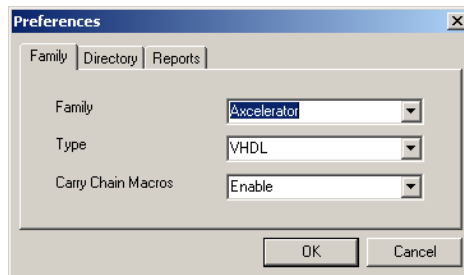

Figure 1-4. Preferences Dialog Box - Family Tab
1. **From the File menu, select Preferences.** The Preferences dialog box appears, as shown in Figure 1-4.
The Axcelerator Family offers fast carry-chain macros for a compact design of Arithmetic Macros and Counters. FC macros for Axcelerator are enabled by default. You may choose to use regular macros for the Axcelerator family; to do so, open the Preferences dialog box to the Family tab (Figure 1-4). Select Disable from the “Carry Chain Macros” drop down menu to disable Fast Carry